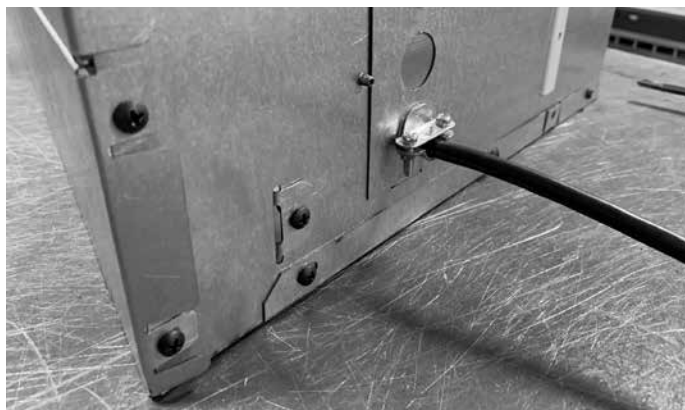

Figure 5.2 Reattaching Junction Box Cover
- Make all necessary wire connections to the junction box and reattach the cover plate to firebox outer shell. See Figure 5.2.